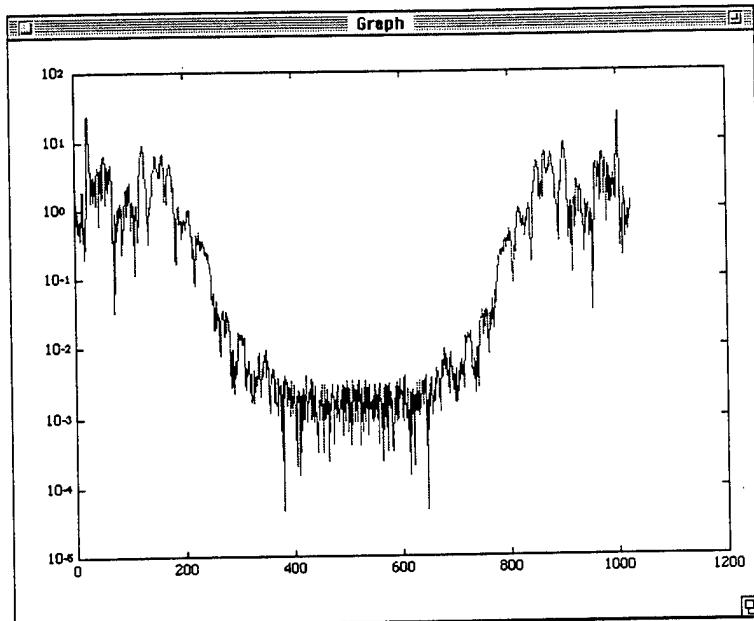

Figure 4.10: Frequency plot: 2-sided spectrum - 0560AZP6.HP
5. In general, `Y` will be complex. Usually, we are interested only in viewing the magnitude (although the phase has its uses as well). We can plot the resulting magnitude using the command `>> semilogy(abs(Y))` which plots the magnitude of `Y` against its indices. The corresponding output of my data file (**0560AZP6.HP**) is shown in Figure 4.10.